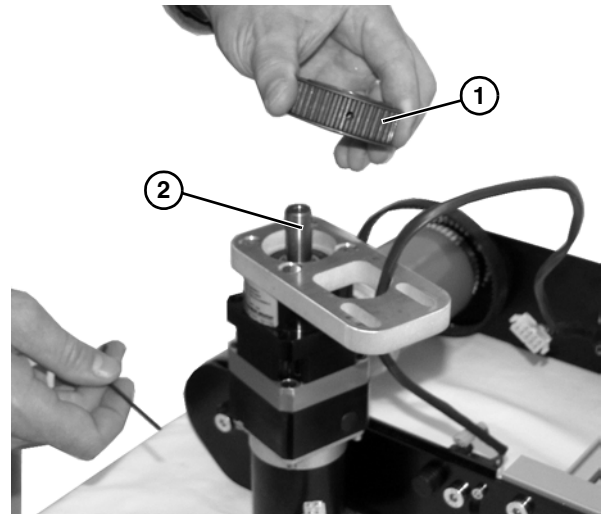

Figure 65
*Take note of the drive motor gear (**Figure 65, item 1**) placement. When reassembling the drive motor gear, it should be reassembled to the exact same location on the shaft.*
9. Remove drive motor gear (**Figure 65, item 1**) from drive motor shaft (**Figure 65, item 2**).